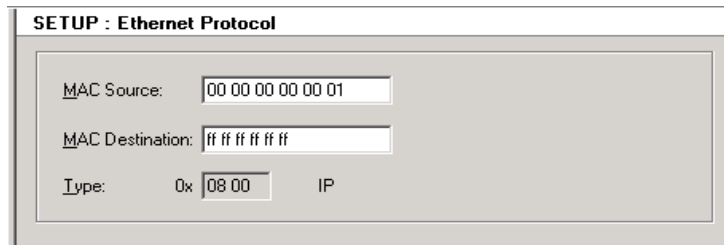

Figure 7-16. SETUP Window Pane
- 6 In the *Edit Protocol Stack* pane, click the **Ethernet** button to display the *SETUP: Ethernet Protocol* pane. (See *Figure 7-16*.)